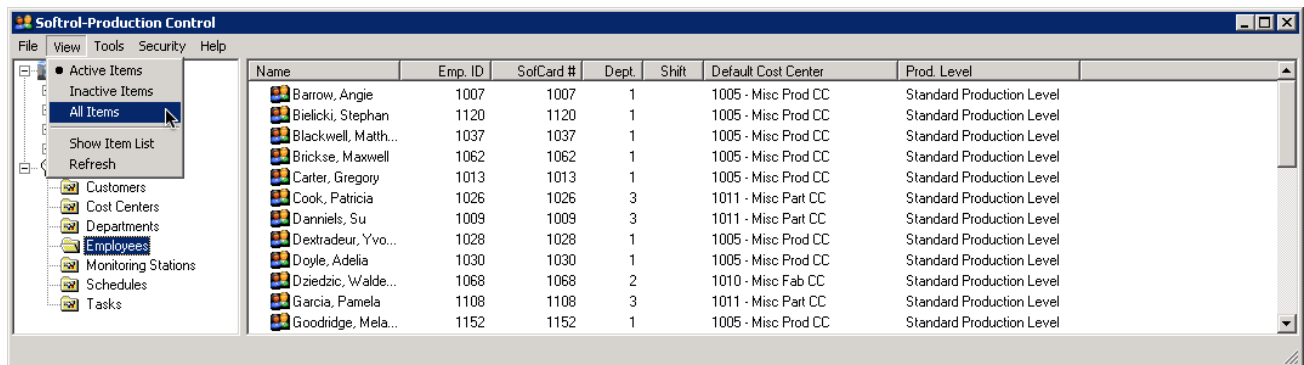

Figure 38. Softrol-Production Control **View** menu options.
2. Click **View** from the main menu and select **All Items** (see Figure 38).